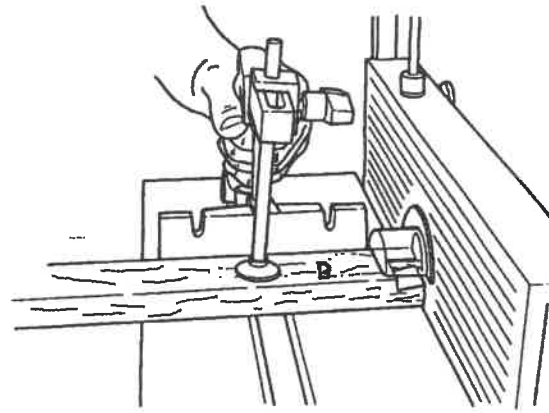

Fig. D-16
11. Place the miter gauge in the miter channel and install the guard (13) on the slide, as in Fig. D-16.
13. Remove the guard (13) from the slide. Lower the bit twice the number of turns calculated in Step 10.